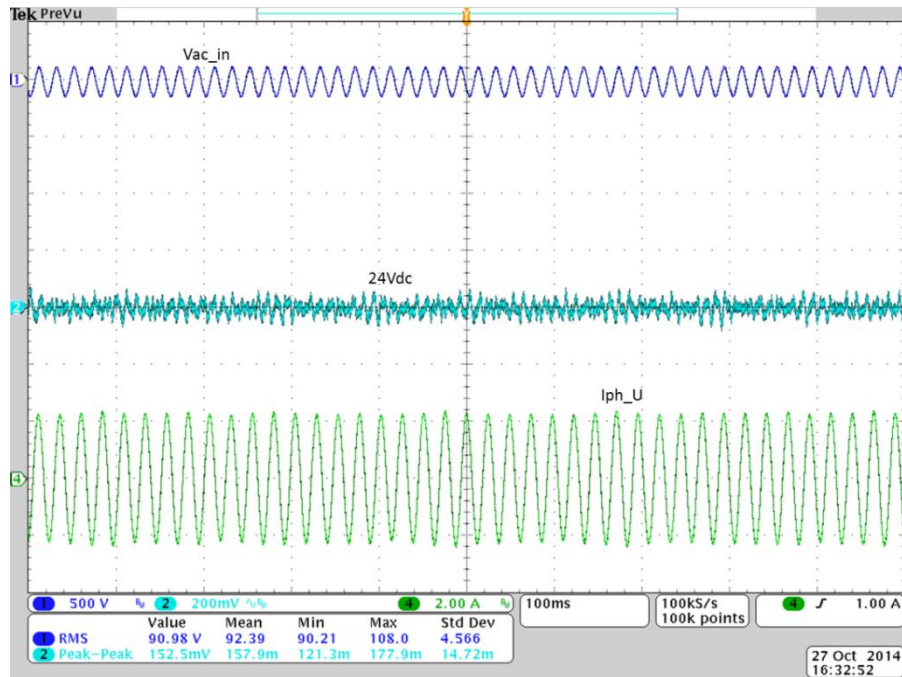

Figure9: 24Vdc ripple voltage at 90Vac & 310 rpm
4. **Ripple voltage at 24Vdc:** One of primary goal of this reference design is to minimize power frequency ripple (100 Hz or 120Hz) in 24Vdc. This provides efficient utilization of sinusoidal control of DRV10983 to avoid low frequency noise and achieves best in class acoustic performance. The figures 9 and 10 capture ripple voltage and max ripple voltage is in range of 160mVpk-pk i.e. 0.6% of 24Vdc.